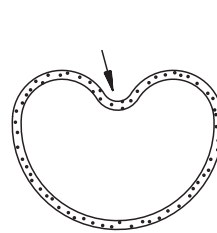

Fig. 1
- (1) Confirm that the seal groove and the seal ring surface is dry.
- (2) Use lithium soap base multipurpose grease (cone penetration No.1 or No.2).
- (3) To fit a seal ring, make it heart-shaped as shown in the figures at the right and press one end of it into the groove. Then, fit the whole seal ring, pressing it with your finger (Figs. 1 and 2).